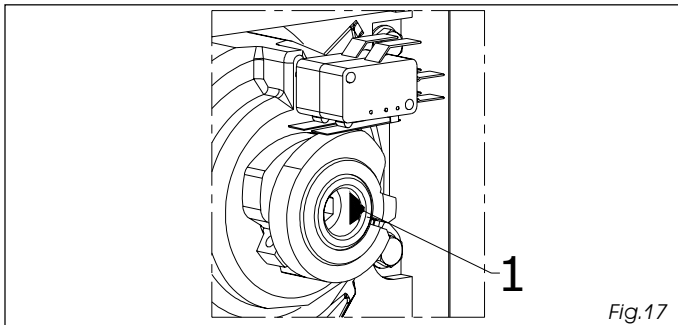

Fig.17
The mechanical stop consists of a spring pin (fig.17 ref.1) that must not be overpassed to prevent jeopardizing the operation of the release device.